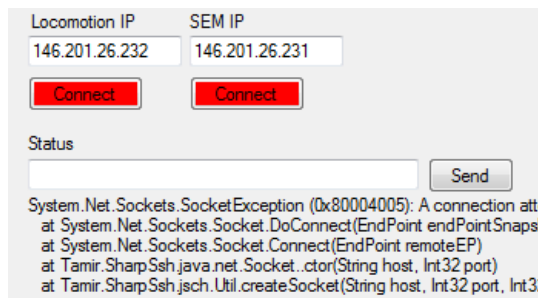

Figure 6 - SSH connection failure message.
3. Once the rover looks like it does in Figure 6 below, release the 'Y' button and the rover will stand, ready for commands.